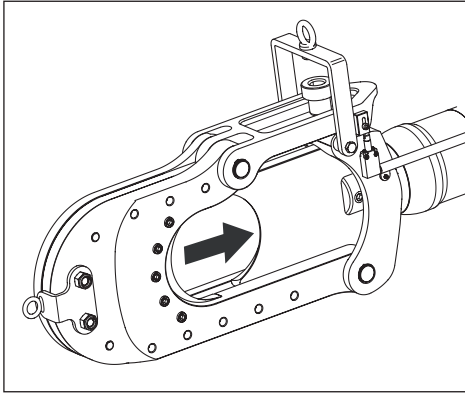

Figure 7, Piston and Blade in Home Position (fully retracted)
Always be sure that the piston and moving blade are in the fully retracted "home" position before placing any material inside the cutting head. See Figure 7.
2. Be sure that the piston is in the “home” (fully retracted) position. See Figure 7.
1. Start the pump. Move the piston to the "home" position (fully retracted). See Figure 7.